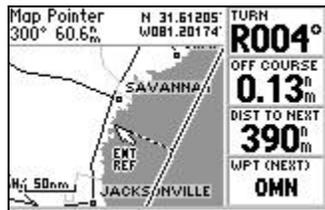

Figure 9-22
- Instead of measuring the distance from the aircraft to the cursor, you can set another point to measure from. In Figure 9-22, I wanted to find the distance from a route formed by a direct GOTO to the shoreline. I used the measure distance feature and set the reference to the furthest point from shore along the route. At this point, the route is 60.6 nm from shore.